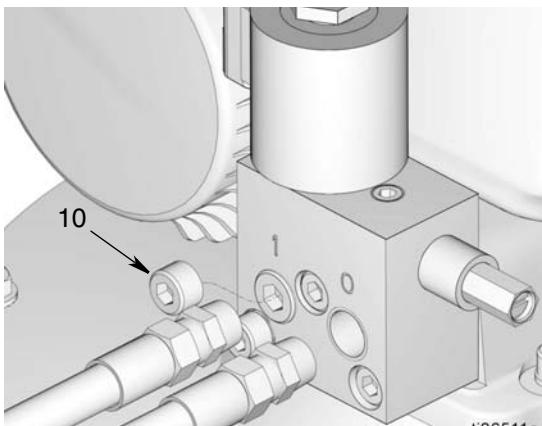

FIG. 6
9. Install lubrication line to vent valve pump outlet port marked "0" (FIG. 6).
10. In the inlet port marked "1" (FIG. 6) install either:
- a plug (10).